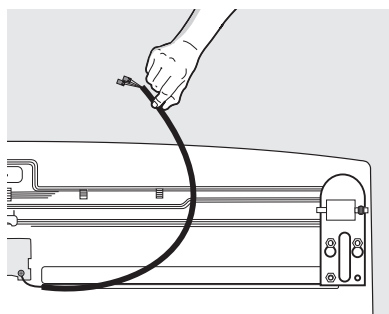

Figure 3
6. Slide the gray cable and connectors out of the plastic channel located on the bottom right side of the cabinet (see Figure 3).